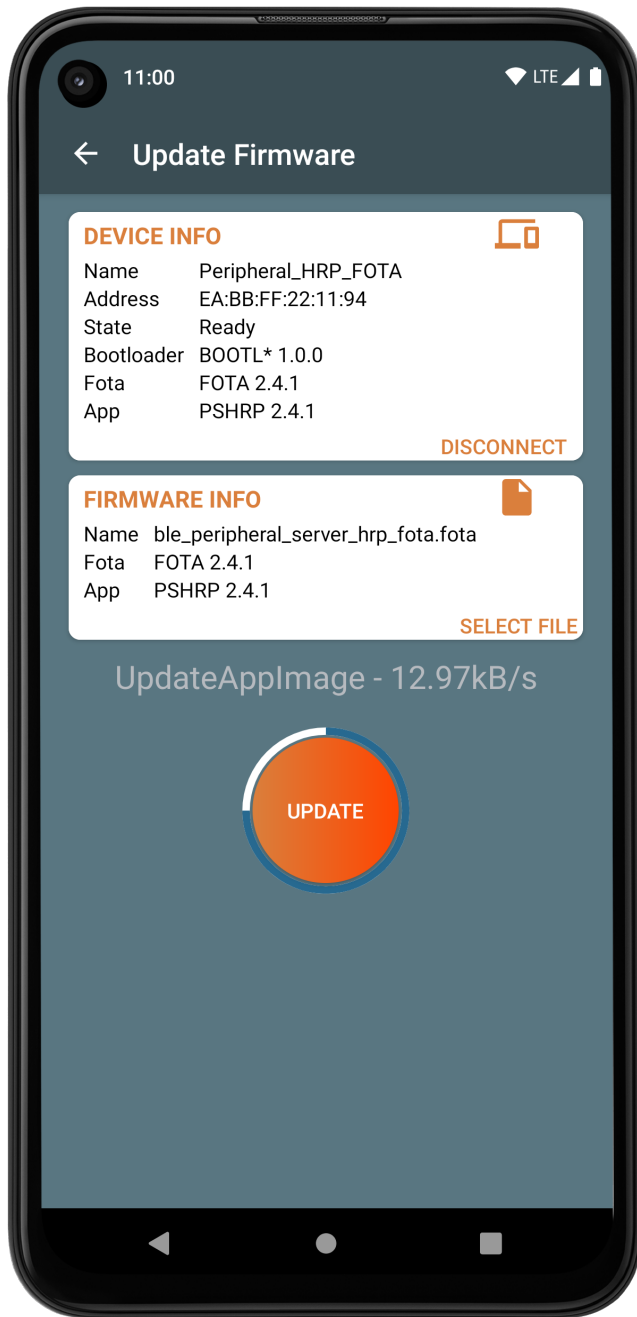

Figure 21. RSL FOTA Mobile Application: Updating Firmware
4. Once the FOTA firmware image file is selected, click the **Update** button (see the figure "RSL FOTA Mobile Application: Updating Firmware" (Figure 21)).